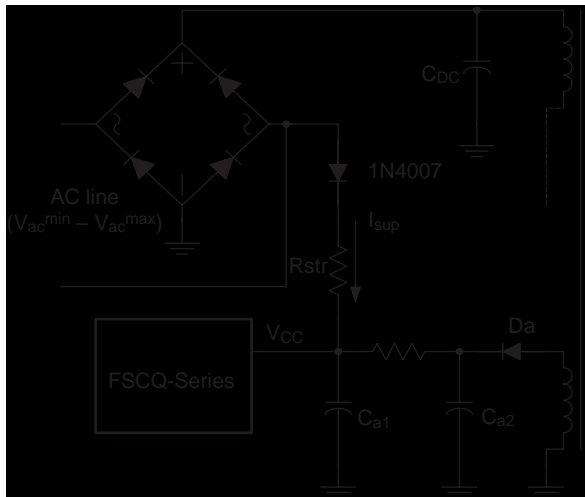
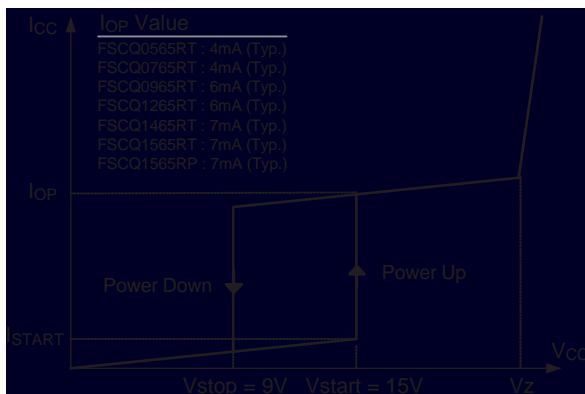

Figure 4. Startup circuit
Figure 5. Relationship Between Operating Supply Current and V_{CC} Voltage
1. Startup: Figure 4 shows the typical startup circuit and the transformer auxiliary winding for the FSCQ-Series. Before the FSCQ-Series begins switching, it consumes only startup current (typically 25µA). The current supplied from the AC line charges the external capacitor (C_{a1}) that is connected to the V_{CC} pin. When V_{CC} reaches the start voltage of 15V (V_{START}), the FSCQ-Series begins switching, and its current consumption increases to I_{OP} . Then, the FSCQ-Series continues its normal switching operation and the power required for the FSCQ-Series is supplied from the transformer auxiliary winding, unless V_{CC} drops below the stop voltage of 9V (V_{STOP}). To guarantee the stable operation of the control IC, V_{CC} has under voltage lockout (UVLO) with 6V hysteresis. Figure 5 shows the relationship between the operating supply current of the FSCQ-Series and the supply voltage (V_{CC}).